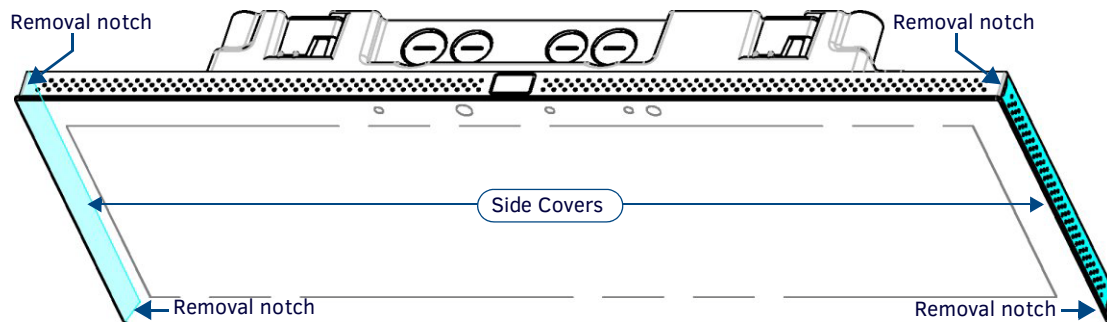

FIG. 34 MXD-1901-PAN Side Covers (highlighted in blue)
1. The MXD-2001-PAN and MXD-1901-PAN have removable side covers on the left and right (landscape) or top and bottom (portrait) (FIG. 34). Note that FIG. 34 shows the MXD-1901-PAN, but the illustration applies equally to the MXD-2001-PAN. Also note that FIG. 34 shows a landscape panel but the installation of a portrait panel is essentially the same, other than the vertical orientation: